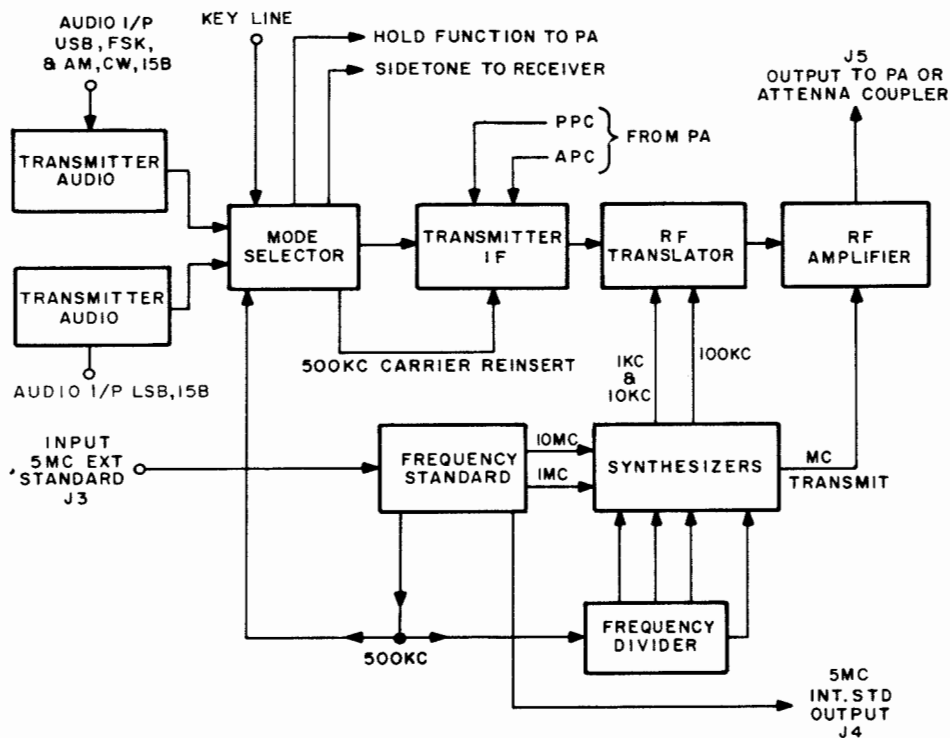

Figure 2-2. Exciter SC-910E, Block Diagram
**2.1.2.1** When transmitting voice communication (see figure 2-2), the audio input is applied to one of the two Transmitter Audio amplifiers, depending on the setting of the MODE SELECTOR switch. An audio compressor and AGC loop provide a constant level